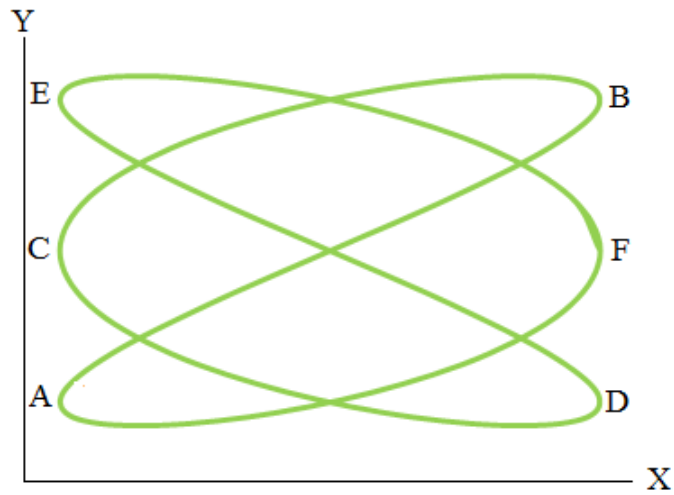

Figure 12: Figure for question 3
- 3) In this experiment the Lissajous curves which you formed contained only loops in their pattern. However, while tuning the Frequency Control Knob of the function generator you must have seen curves of complex patterns like the following one (Figure 12)